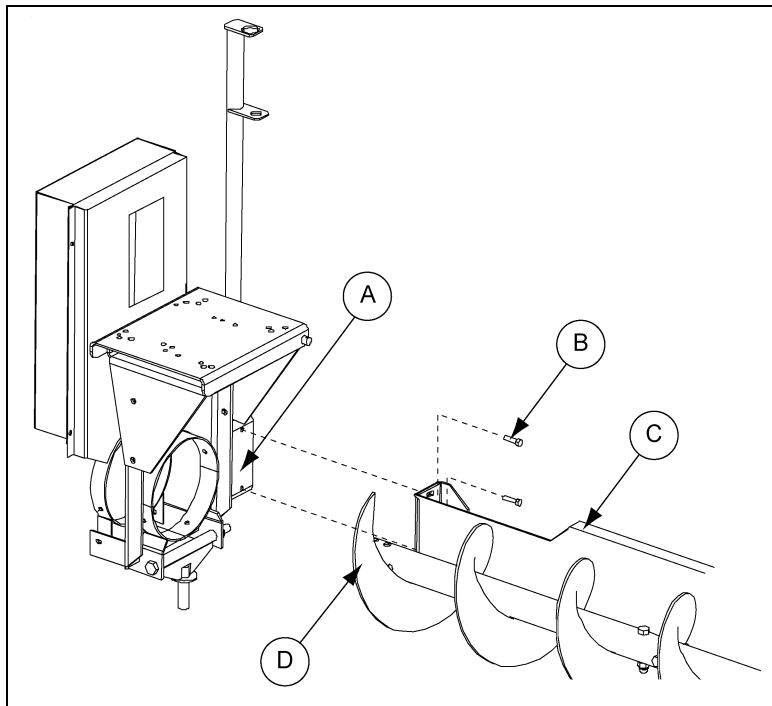

Figure 4H
1. Bolt the sweep flight with the cutback (D) to the reducer output shaft of the drive assembly. Use two (2) 5/8" x 4" long hex head cap screws and nylon lock nuts. (See Figure 4H.)
2. Attach the sweep back shield with cut out (C) to the shield mount plate (A) on the drive assembly. Use two (2) 3/8" x 1-1/4" long hex head cap screws, flat washers, lock washers and nuts (B). (See Figure 4H.)